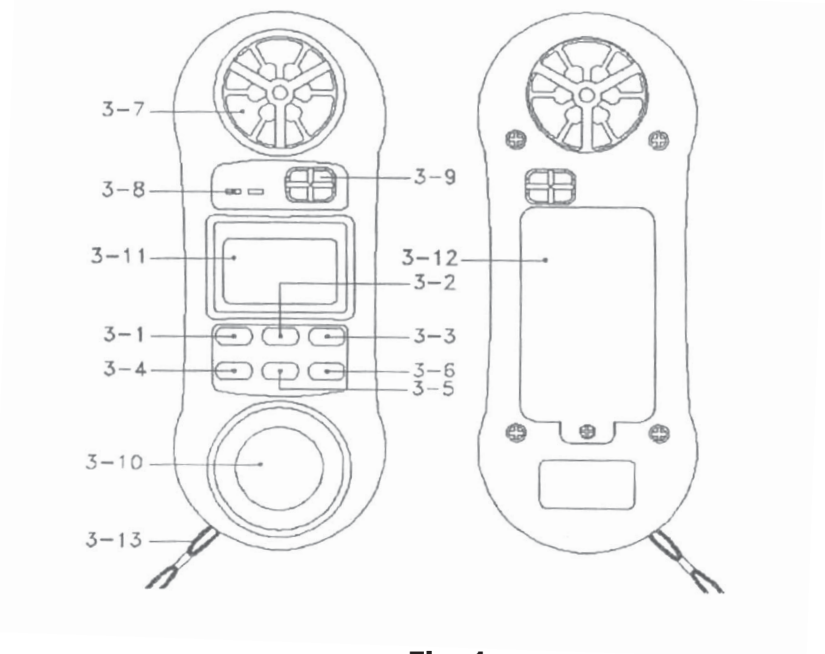

Fig. 1
- 1) Power on the instrument by pressing the " ON Button " (3-1, Fig.1).
- 2) Select the Anemometer function by pressing " Function Button " (3-6, Fig.1).
- 3) Press the " Unit/Zero Button " (3-4, Fig.1) to select unit that you want and then face the " Anemometer Sensor " (3-7, Fig.1) to the source of wind.
- 1) Power on the instrument by pressing the " ON Button " (3-1, Fig. 1)..
- 2) Plug a type K thermocouple probe in the " Thermocouple Input Socket " (3-8, Fig.1).
- 3) Select the Temperature function by pressing " Function Button " (3-6, Fig.1)
- 4) Press the " °F/°C Button " (3-5, Fig.1) to select °F or °C unit.
- 1) Power on the instrument by pressing the " ON Button " (3-1, Fig. 1).
- 2) Select the Relative Humidity function by pressing " Function Button " (3-6, Fig. 1).
- 2) Select the Light Measurement function by pressing the "Function Button" (3-6, Fig. 1) until the light value is displayed. The light display digits are oriented 180° from the other function displays for easy exposure and output reading of the light sensor.
- 3) Press the " Lux/Ft-cd Button " (3-5, Fig.1) to select measuring unit " Lux " or " Ft-cd ".
- * For best results zero the light sensor prior to use in a dark environment. Placing the light sensor end of the meter under a desktop or flat surface so as to block any light can accomplish this. Then press the " Unit/Zero Button " (3-4, fig.1) to set the meter indication to zero.
- 2) Select the Air Flow function by pressing " Function Button " (3-6, Fig.1) until the display show unit of CMM or CMM.
* Air flow unit " CFM " or " CMM " can be select by pressing the " CFM/CMM Button " (3-4, Fig.1)
* Area size can be set by pressing the " Area-Set Button " (3-5, Fig.1), then use the
Button (3-5, Fig.1)
Button (3-6, Fig.1)
Button (3-4, Fig.1)
- 4) Use the hand to hold the meter, face the " Anemometer Sensor " (3-7, Fig.1) to the measured wind. In the same time the air flow value (CFM, CMM) will show on the LCD display.
Pressing the " Hold Button (3-2, Fig.1) " will freeze the current reading value with a "HOLD" symbol on the display.
- 1) The Data Record function records & displays the maximum and minimum reading values. Start the Data Record function by pressing the " REC Button " (3-3, Fig.1) once. There will be a " REC " symbol on the display.
- (a) Press the " REC Button " (3-3, Fig.1) once and the " Max " symbol along with the maximum value will appear on the display.
- (d) Clear the Max./Min. value recorded by pressing the " Hold Button " (3-2, Fig.1) once. Previous recorded Max./Min. value will be given up and then revert to the REC. function keep on recording.
- 2) Open the " Battery Compartment / Cover " (3-12, Fig.1) and remove the battery.